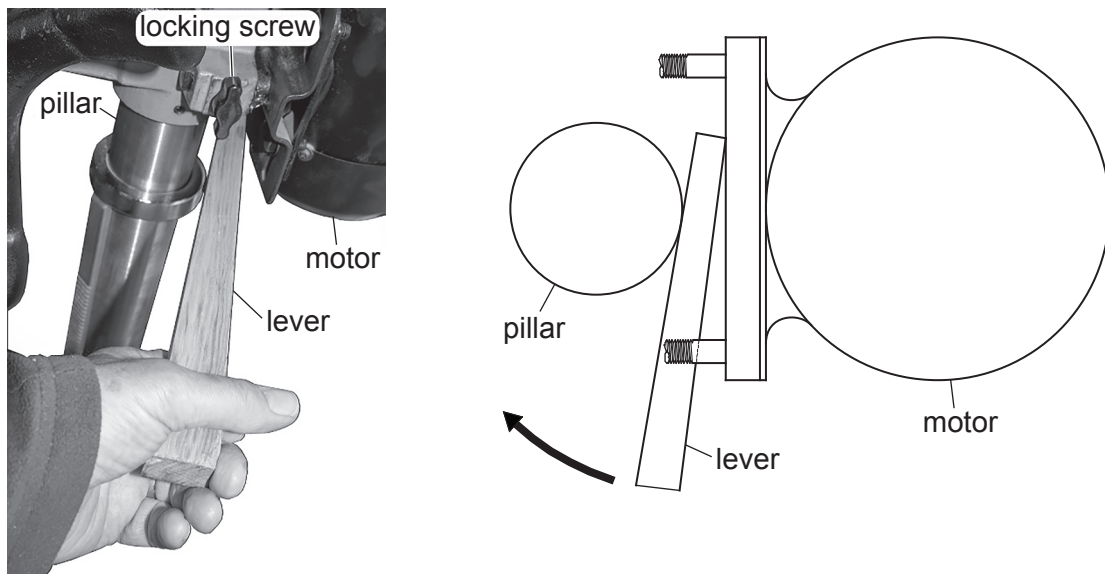

Fig. 10.5
- (iii) The vee belt is tensioned by using a lever between the motor and pillar before locking it in place as shown in Fig. 10.5.